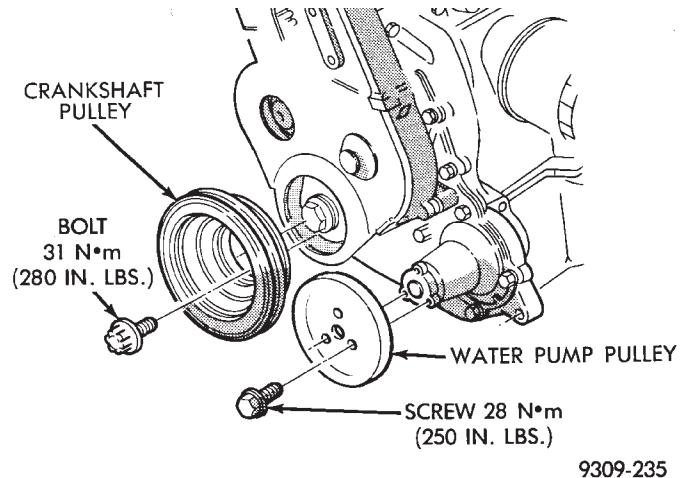

Fig. 3 Crankshaft and Water Pump Pulley
- (1) Remove right engine mount yoke screw. Refer to Engine Mounts (Fig. 3) securing isolator support bracket to engine mount bracket.
- (3) Remove screws retaining water pump pulley and bolts retaining crankshaft pulley (Fig. 3) and lay pulley aside.